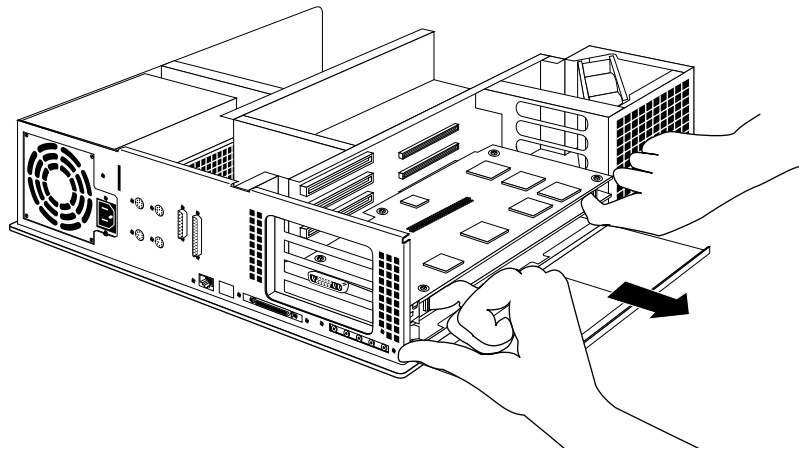

Figure 8-6 Pulling the Board Set out of the Chassis
5. Pull the board set out of the system, as shown in Figure 8-6.